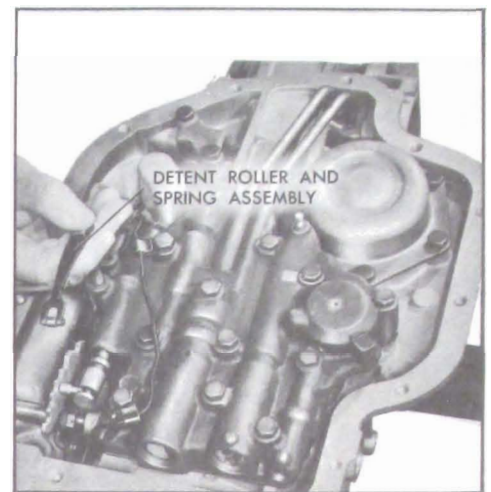

Figure 5-745
6. Install the control valve assembly attaching bolts, washer, electric wire clips and manual detent and roller assembly. Center roller on detent. See Figure 5-745.